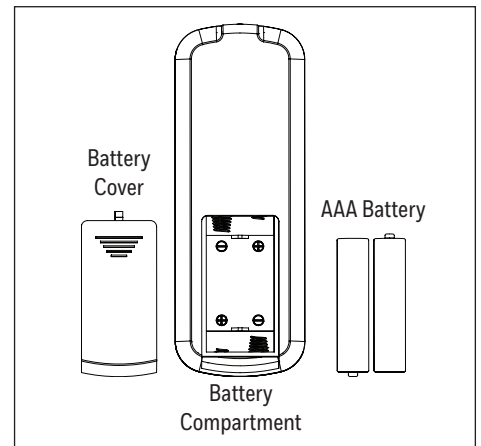

Figure 1.9
9. Use screwdriver, if necessary, to remove the battery cover from the back of the remote. Insert two batteries into the remote; ensure polarity of batteries match the polarity indicated in the battery compartment -- positive (+) to positive (+) and negative (-) to negative (-). Replace the battery cover (Figure 1.9).